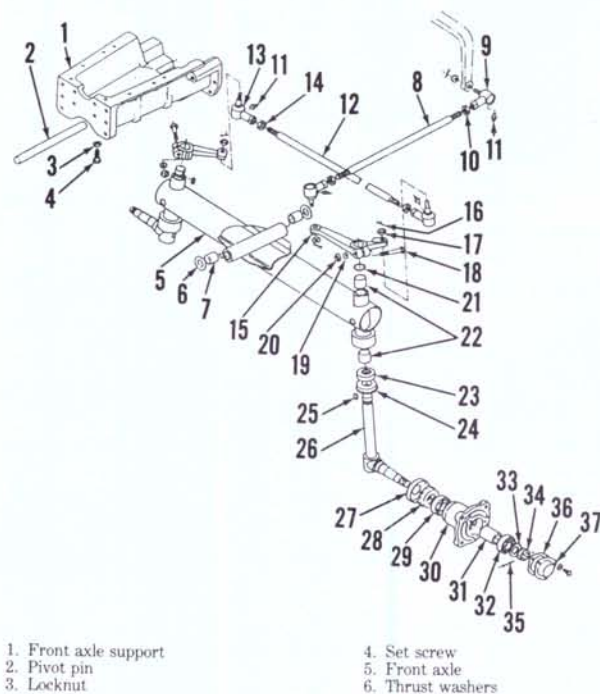
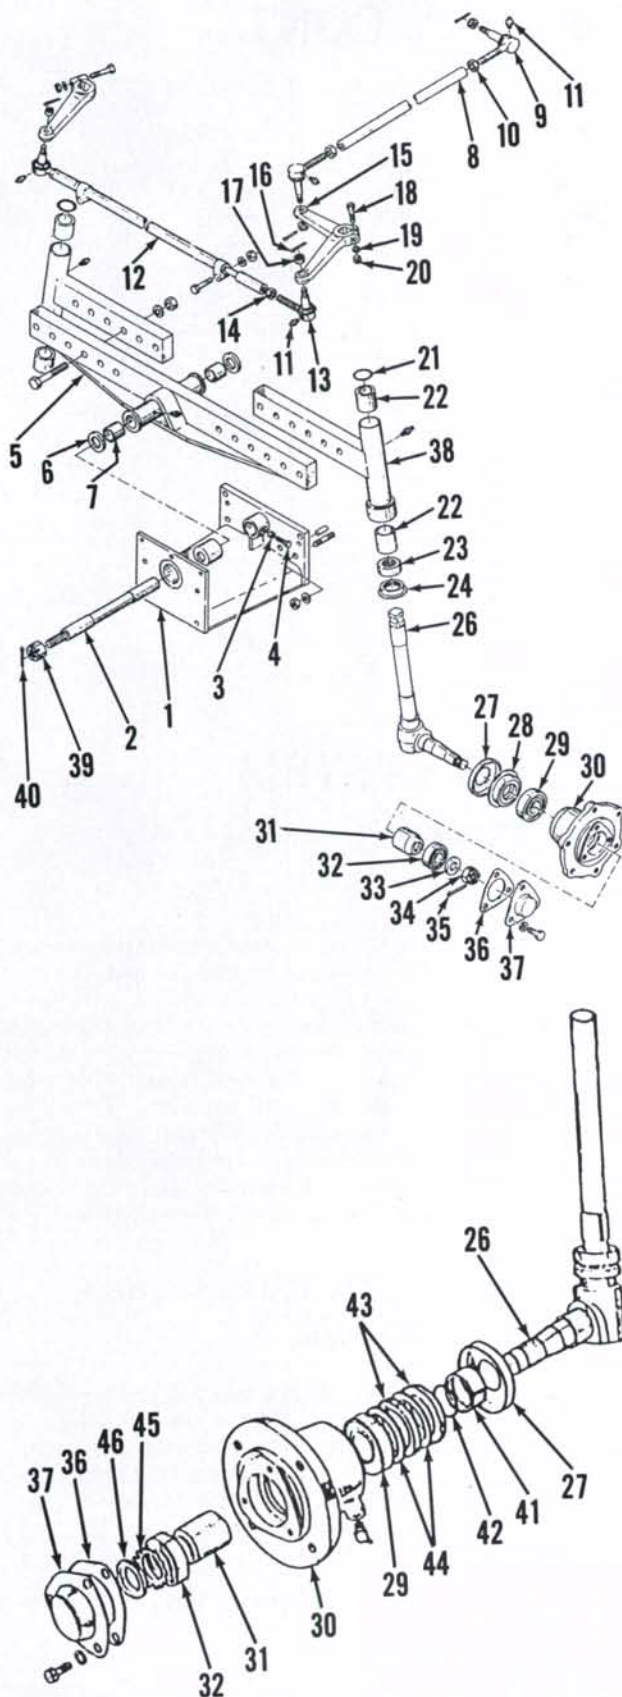

Fig. 1—Exploded view of fixed tread front axle used on Models L175 and L225.
Fig. 3—Exploded view of spindle and hub components used on Model L210. For parts identification, refer to legend in Fig. 1 except for the following:
1. Figure 1 shows an exploded view of fixed tread axle type used on Models L175 and L225. Figure 2 is the adjusta-
3. Refer to Fig. 1 for exploded view of front axle and associated parts of the type used on Models L175 and L225, and to Fig. 2 for view of front axle used on Model L260. Refer to Fig. 3 for an exploded view of spindle and hub com-
Fig. 2—Exploded view of adjustable tread front axle used on Model L260. Axle used on L210 is basically similar. Refer to Fig. 3 for identification of spindle and hub components used on Model L210. For parts identification refer to legend in Fig. 1 except for the following: